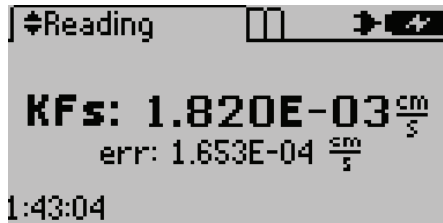

Figure 18 Results screen
- **Results Screen.** After a test is complete, the Results screen replaces the Status screen. It shows the resulting K_{fs} of the test (Figure 18). The error (err) value also appears on the Results screen. The err is the standard error of the K_{fs} reading and represents the amount of noise in the measurement. Press **Up** and **Down** to change Reading screens or press the **POWER/MENU** button to navigate to the Configuration tab.